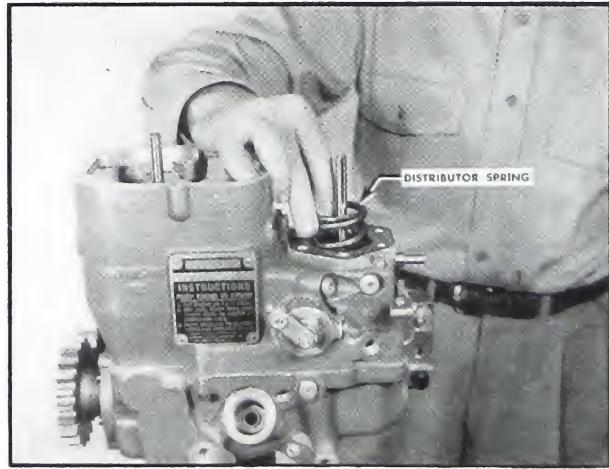

Fig. 5-337. Replace distributor spring
1. Check to see that the suction disc has been assembled. Insert disc and spring discharge disc. Spring dimensions are 2.137 in. free length and 1 13/32 in. at 300 lbs. \pm 10 lbs. Fig. 5-337.